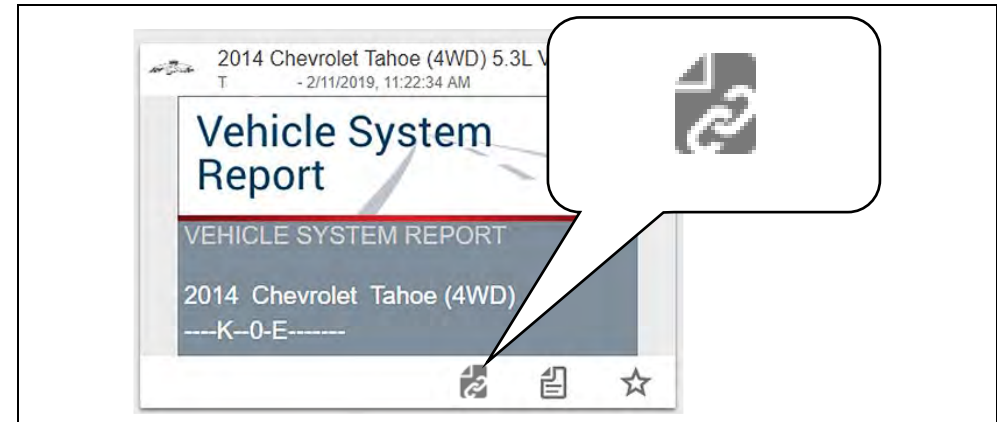

Figure 14-17
1. From Shop Files, select the **Copy icon** (Figure 14-17) on the file card.